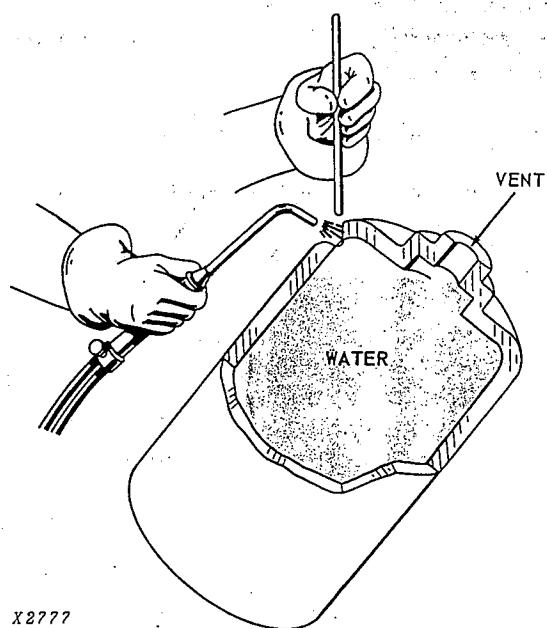

Fig. 166 — Proper Way to Weld a Container
- (1) **Flush out with water** several times and *then fill with water* as far as work permits, positioning container to permit introduction of as much water as possible (Fig. 166).
- (2) Before welding or cutting, be sure there is a vent or opening to provide for release of air pressure as shown.